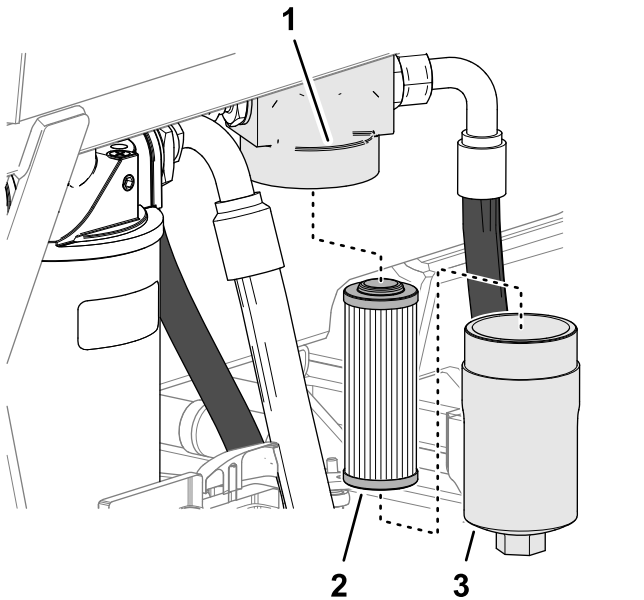

Figure 86
3. At the left side of the machine, clean the area around the filter head and place a drain pan under the filter housing (Figure 86).
4. Remove the filter housing from the filter head and remove the element (Figure 86).
5. Install a new filter element onto the filter head (Figure 86).